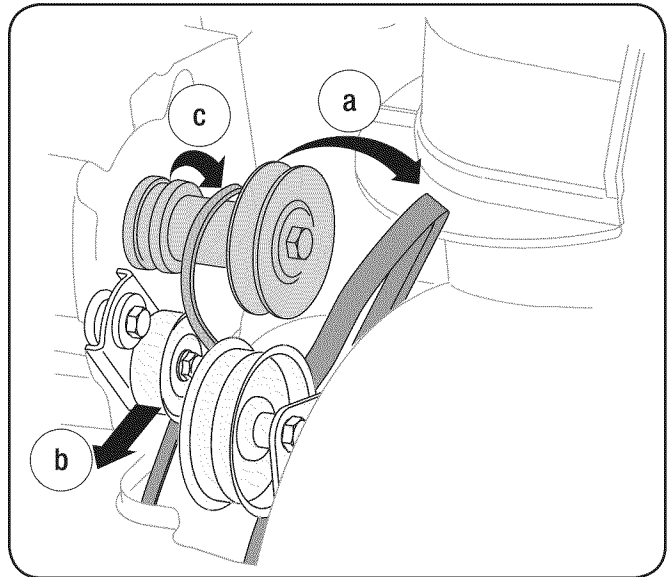

Figure 7-6
3. Remove the belt as follows. See Fig. 7-6.: